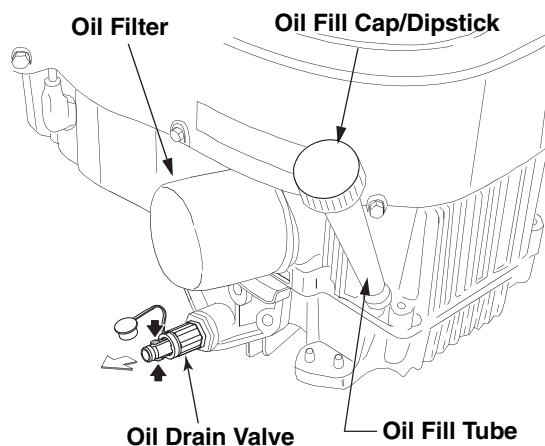

Figure 6-1
3. Pop open the protective cap on the end of the oil drain valve to expose the drain port. Refer to Figure 6-1. Remove the oil fill cap/dipstick from the oil fill tube.
5. Pinch the tabs on the oil drain valve, then pull outward to begin draining oil. See Figure 6-1.